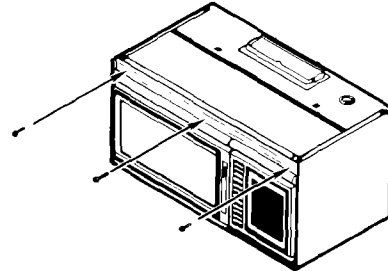

Figure 16
5. Remove the front grill from oven by removing the three screws. (See figure 16.)